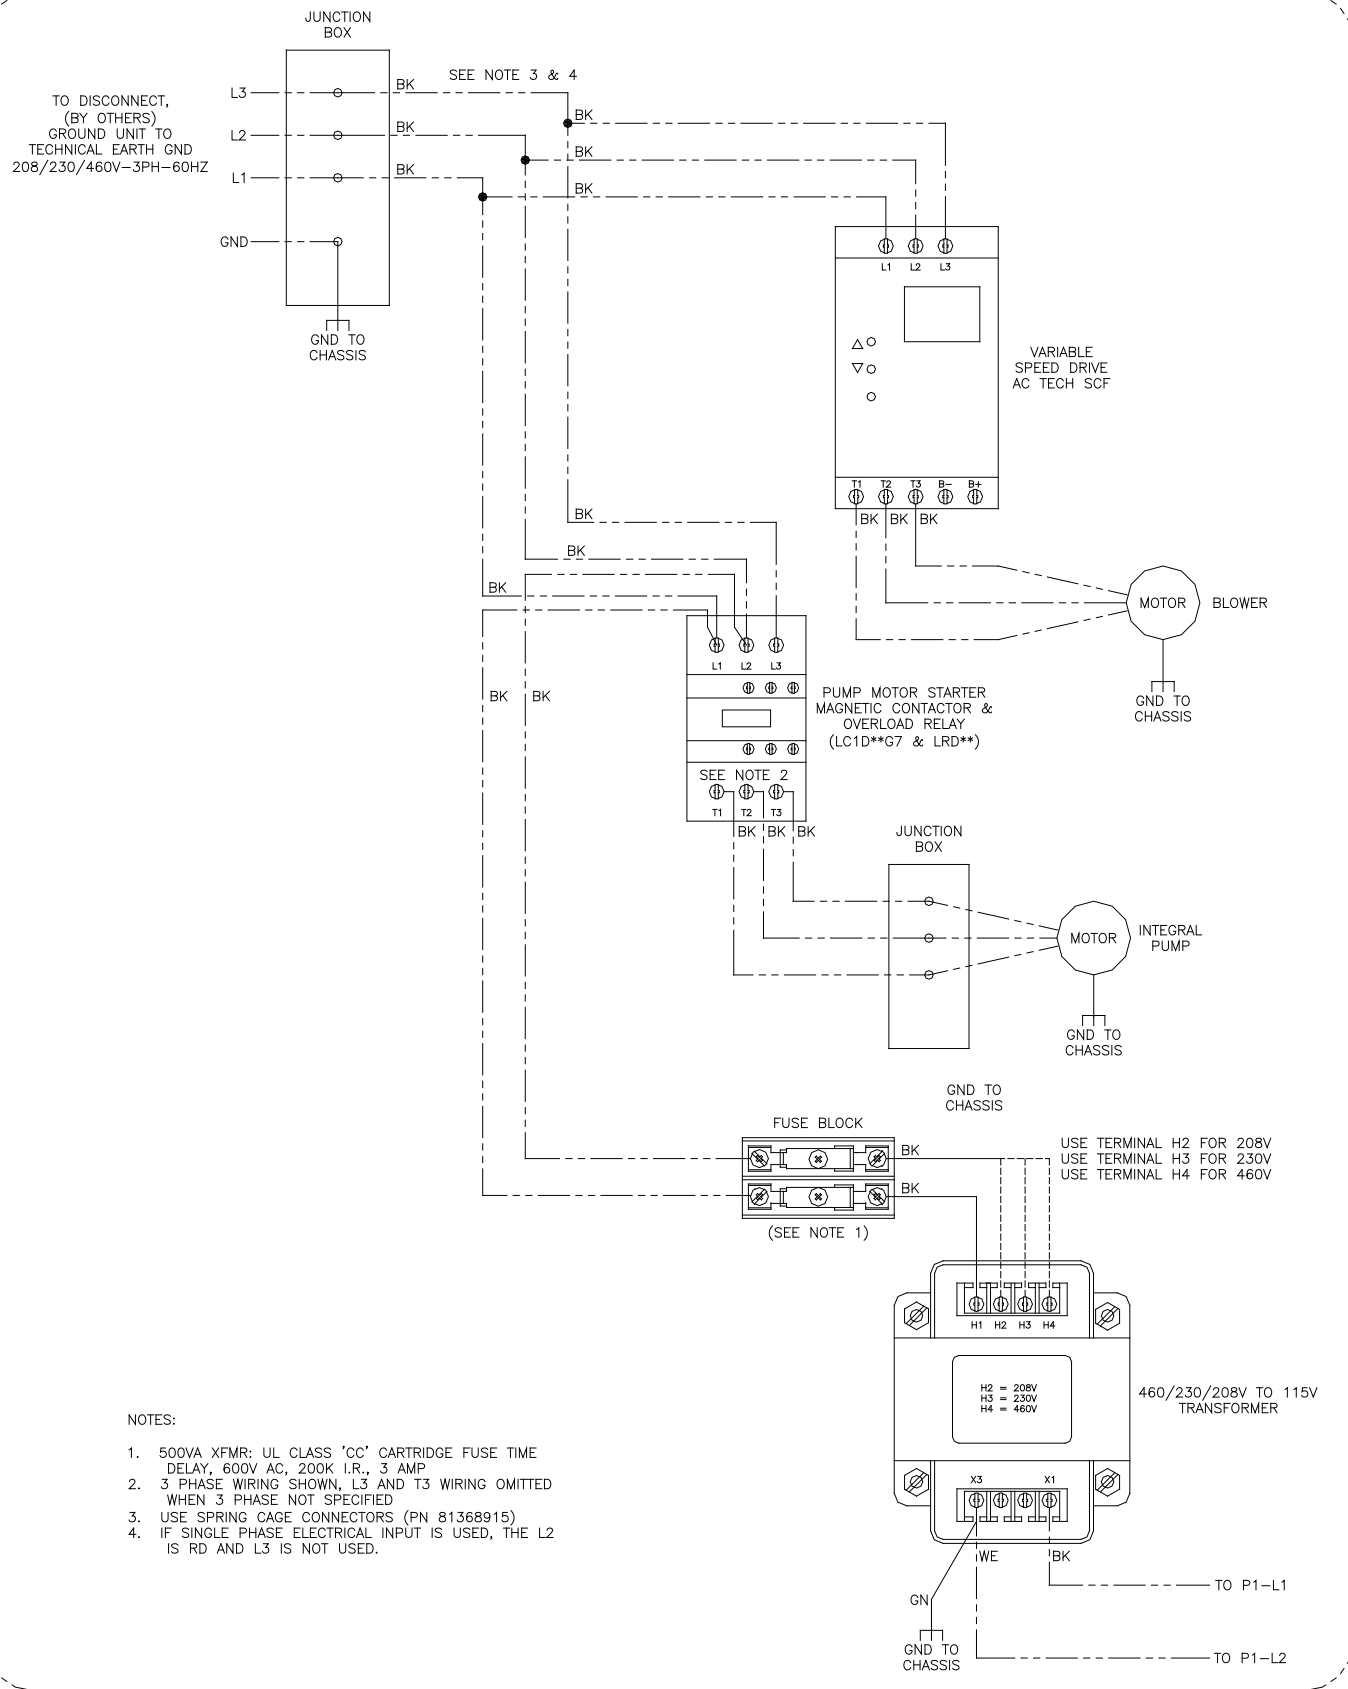

Figure 9a: 208/230/480V - 1PH/3PH - 60HZ Supply Power Wiring Schematic
5. Connect field supplied safety limits or devices using proper terminals provided in boiler electrical cabinet. Refer to wiring diagram supplied with boiler for wiring information. Refer to Figures 9a - 9f for typical wiring diagrams. Refer to Figure 1, for electrical requirements for boiler.